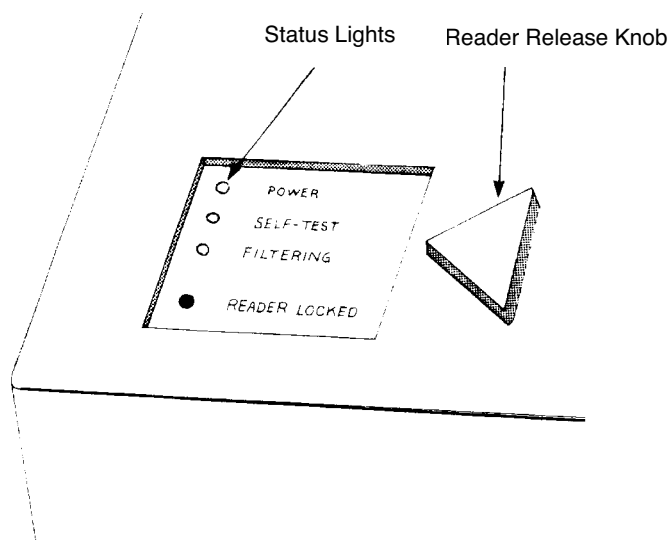

Figure 2-7: Workstation Status Lights
- The green power light on the Workstation should be ON (Figure 2-7).